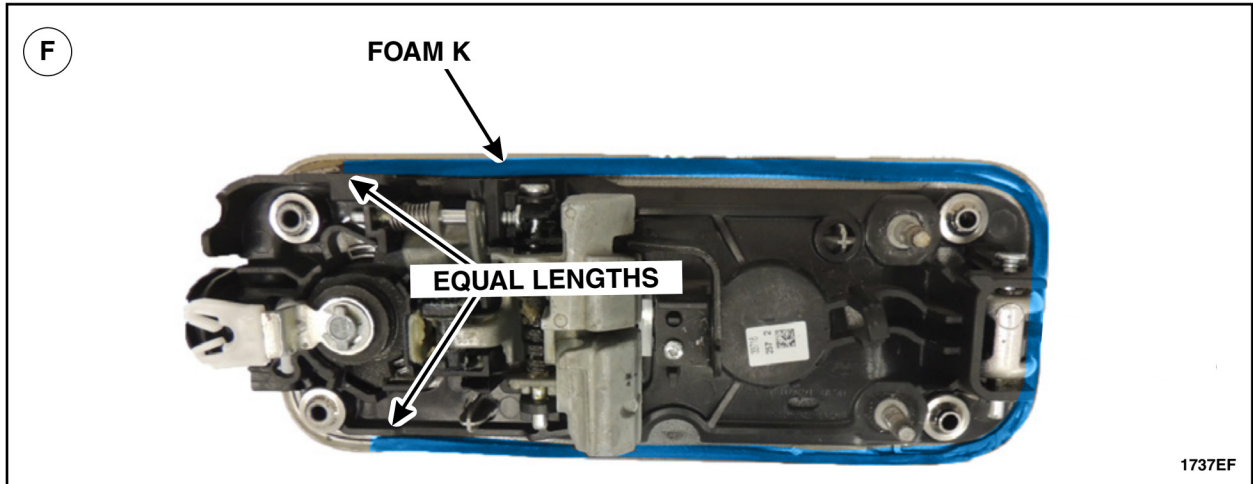

FIGURE 54
- F. Without stretching the foam adhere it to the exterior door handle ensuring that both sides of foam K are of equal length once secured. See Figure 54.